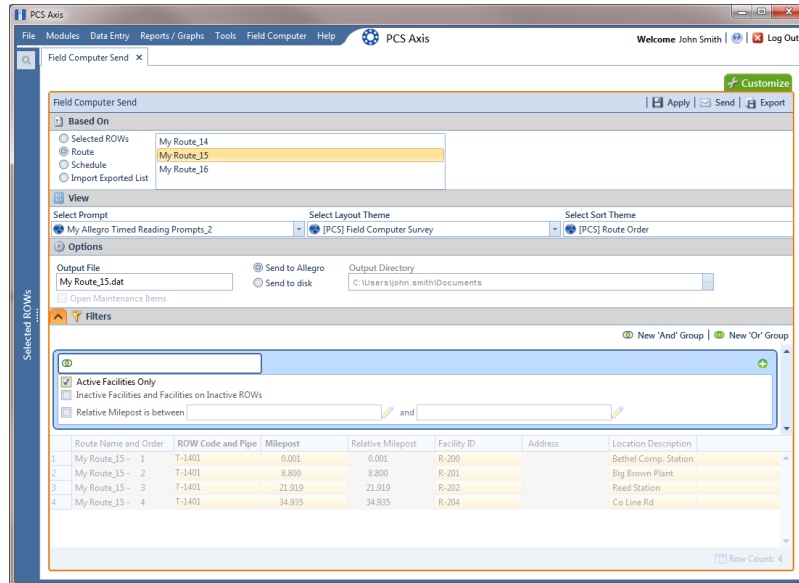

Figure 8-45. Filters
- b** Select one or more options in *Filters*. For example, click **Currently Active Facilities Only** to only include active facilities in the grid and in the route sent to the Allegro (Figure 8-45).